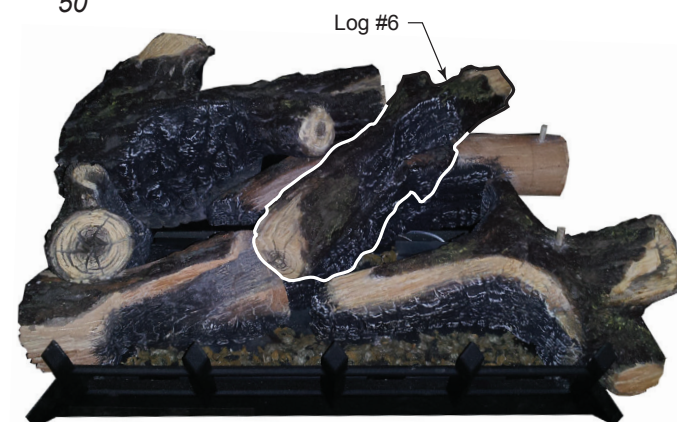

Figure 50
6. Place center top log #6 on two (2) pins on top of log #2. The front end of log #6 should rest on log #4. *Figure 50*